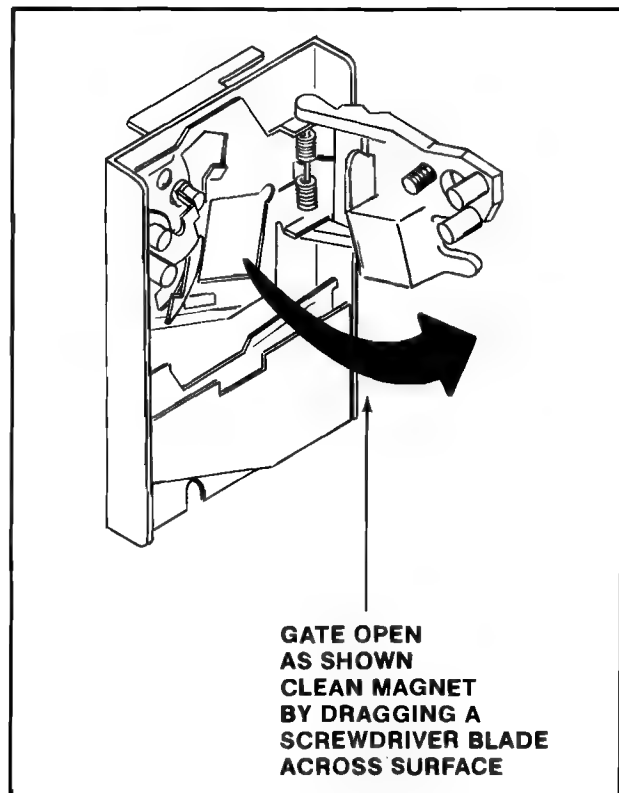

Figure 28 Opening the metal coin acceptor
4. Clean the magnet of all foreign particles. See Figure 28.